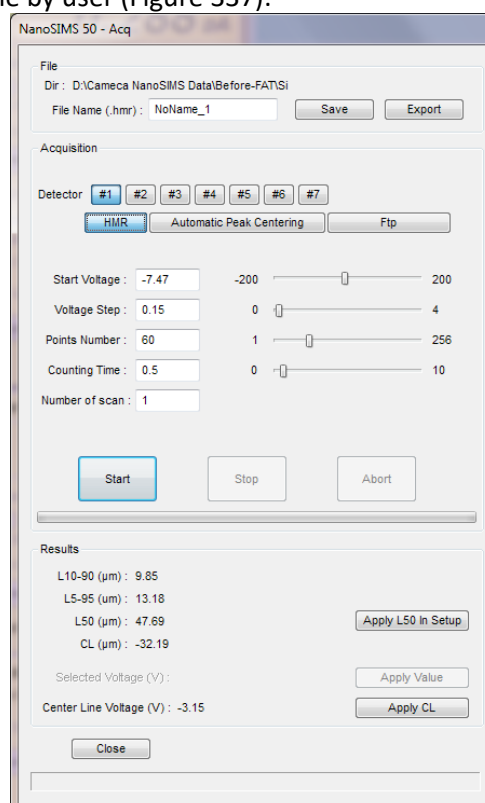

Figure 337: HMR window showing the adjustable parameters for a scan.
- Select the detector. The start value, step value, number of point and counting time are independently adjustable by user (Figure 337):